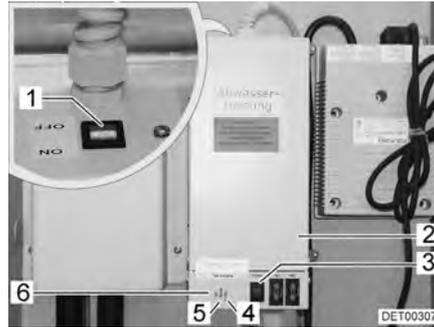

Fig. 123 Transformer with control unit
The 230 V AC/12 V DC transformer (Fig. 123,2) is installed in the wardrobe or in the storage area beneath the seating group, depending on the model.
- The indicator lamp (Fig. 123,5) lights up in green: Regulation in operation
- The indicator lamps (Fig. 123,4 and 6) light up in red: Waste water pipes are warmed
A test button (Fig. 123,3) is integrated in the housing with which the control unit can be operated for a short time. By pressing the test button, the function of the warming unit can be tested, even if the ambient temperature is above 5 °C.
- Turn switch (Fig. 123,1) on the transformer (Fig. 123,2) to "ON".
- Turn switch (Fig. 123,1) on the transformer (Fig. 123,2) to "OFF".